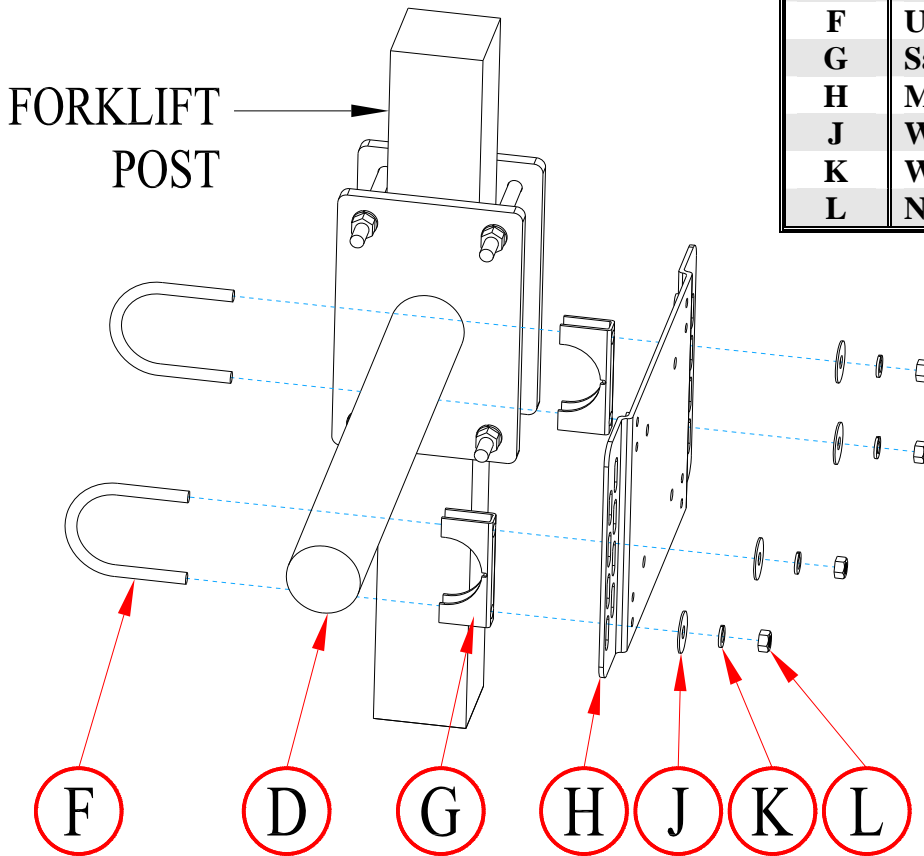

Figure 3.
**Step 2.2: Install Mounting Plate Assembly to Cantilever Assembly:** Place U-Bolt (F) around Mounting Cylinder (D), through Saddle for the U-bolt (G), Mounting Plate (H), Flat Washer (J), and Split/Lock Washer (K) then affix with Nut (L). Four places (see Figure 3).